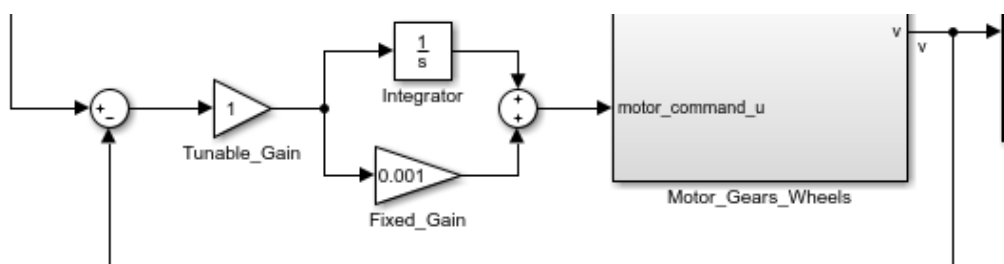

Figure 2-3: Feedback loop
- (1) In the folder Exercise_2, an initialization script called init_wheel_speed_control.m is given. Execute it.
- (2) Open the model wheel_speed_control.slx and familiarize yourself with the model.
- (3) Simulate the model. Observe the outputs with the scope. Note the effect of the disturbance at $t = 5$ s. Now we want to build a controller that is able to reject the disturbance and ensures that the velocity v follows the commanded v_{target} .
- (4) Replace the Gain block (on the top level of the model) with a feedback loop of v , containing a PI-controller structure like the one shown in Figure 2-3. Note that for the scope of this exercise, one gain (i.e. one degree of freedom) of the controller remains fixed, whereas the other gain will be tuned. Give the Tunable_Gain an initial value of 1000.
- (5) Open the “Control System Designer” (Analysis → Control Design → Control System Designer...)